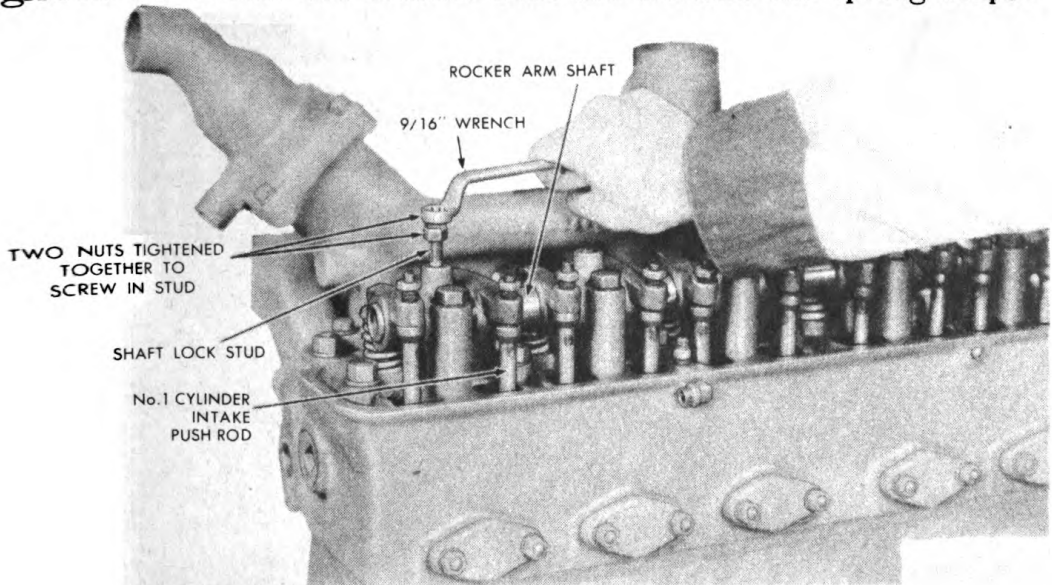
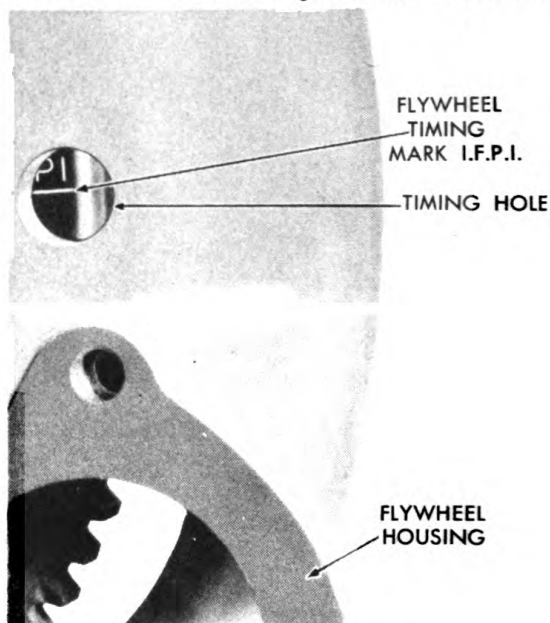

Figure 185. Installing Lock Stud.
Figure 190. Flywheel Timing Hole in Gear Hub.
NOTE: The large hole between the oil holes in the rocker arm shaft should be centered with the threaded hole in the first bracket. After the rocker arm shaft is in position, screw in the rocker arm shaft lock stud. A good method for installing this stud is to use two nuts locked against each other and with a box wrench as shown in Figure 185, tighten the stud in place. Tighten the rocker arm bracket stud and install the spring clips.
A. Be sure that the intake valve rocker arm of No. 1 cylinder (second rocker arm from the timing gear, see Figure 185) is adjusted to a clearance of .010" and the idler gear is not in place on the shaft and meshing with the other gears. **NOTE:** The hot clearance for the intake is .009". The readjustment must be made during the test run.
B. Turn the crankshaft until the timing mark on the flywheel, No. 1 cylinder I. O. (intake open) is in the center of the inspection hole in the flywheel housing. See Figure 190.
30. (A) Before installing the fuel pump and governor as a unit, time the fuel injection pump with the engine as follows: Revolve the crankshaft in the direction of rotation so that No. 1 intake valve opens. See Figure 185. Slowly continue turning the crankshaft until the timing mark No. 1 F.P.I. on the flywheel centers in the timing hole. See Figure 190.